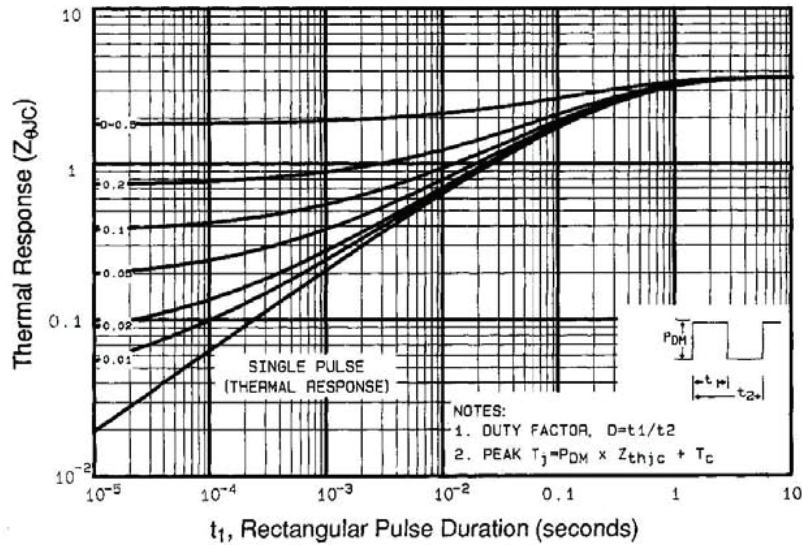

Fig. 11 -Maximum Effective Transient Thermal Impedance, Junction-to-Case
- Repetitive rating; pulse width limited by maximum junction temperature (see fig. 11)
- a. Repetitive rating; pulse width limited by maximum junction temperature (see fig. 11)